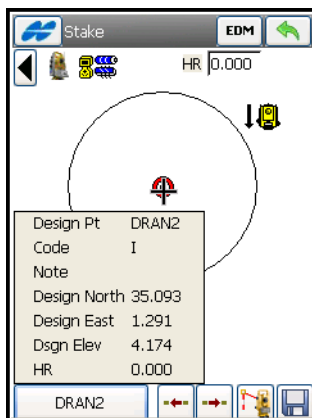

Figure 13-5. Information on Design Point
- Tapping the current design point name shows information on this point (Figure 13-5 on page 13-7).